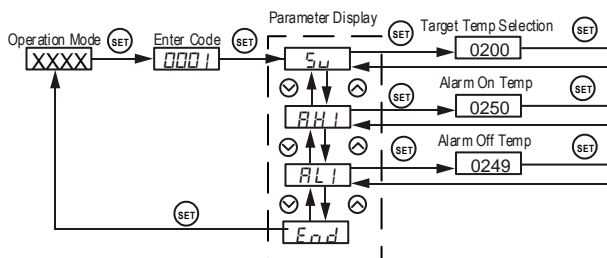

Figure 5. Flow chart for how to set target temperature and alarm
The temperature and alarm parameters are listed in table 4. To change the parameters, press **SET**, enter code "0001", press **SET** again. Figure 5 is the parameter flow chart.
b. Follow the flow chart shown in Figure 5. This method is easier for large temperature change. e.g. When changing from 100 to 2000 degree, user can make 1000 degree increment by one key stroke. If no key is pressed after confirmation of SV, the controller will return to normal operation mode automatically in 1 minute.